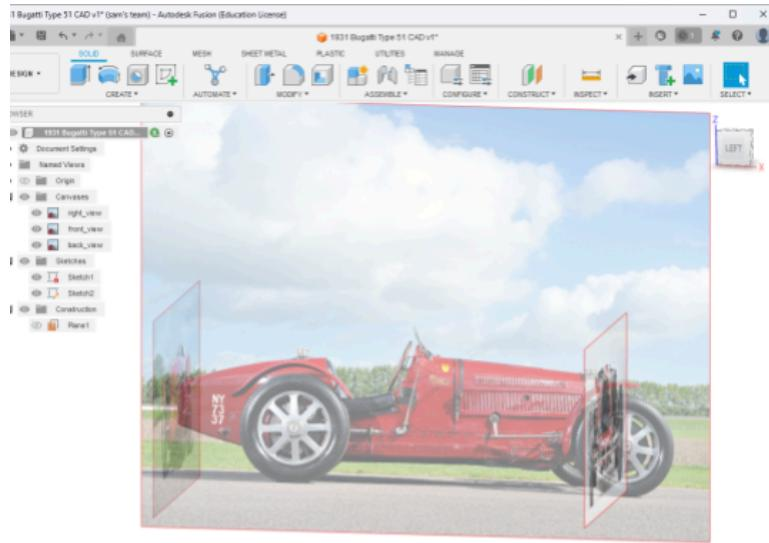

Fig. 6: skeleton of car, created using imported images
- a. Use the scaling feature to ensure that each view of the car depicts the features of the car at the same size. Superimpose sketches on the primary planes of your CAD workspace, making a rough skeleton of the car, which will allow you to trace sketches and extrude the car body. See **Fig. 6, 7, and 8** for visuals of this process.